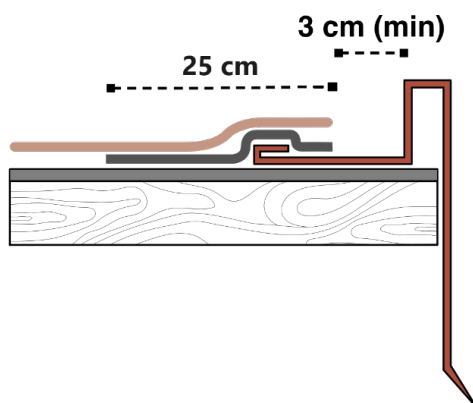

Fig. 19 - Lateral flashing detail
- Install the lateral flashings above the membrane applied to the roof. Apply a band of bituminous membrane, about 25 cm wide, to overlap the flashing. Proceed with the normal installation of the shingles by torch, as will be described below, above the lateral flashing. Leave a space of about 3cm between the end of the shingles and the edge of the lateral flashing. - Fig. 19.